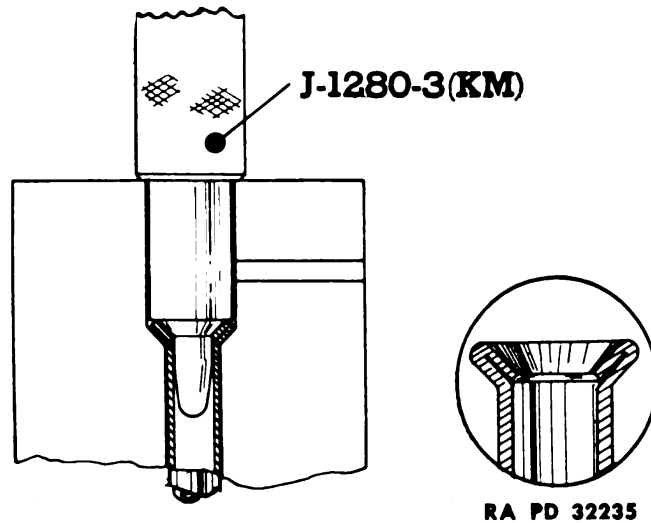

Figure 107—Final Flare-forming Operation, Using Special Flaring Tool KM-J-1280 (41-T-3076-35)
e. **Second Flare-forming Operation.** Next, using the flare-forming tool (41-T-3076-35) having the 46-degree die at its lower end, insert the tool in the die and strike firm blows, using a 1-pound hammer, until the shoulder of the tool contacts the top of the die. The cross-section drawing (fig. 107) shows the second and final forming operation in making a double-lap flare.